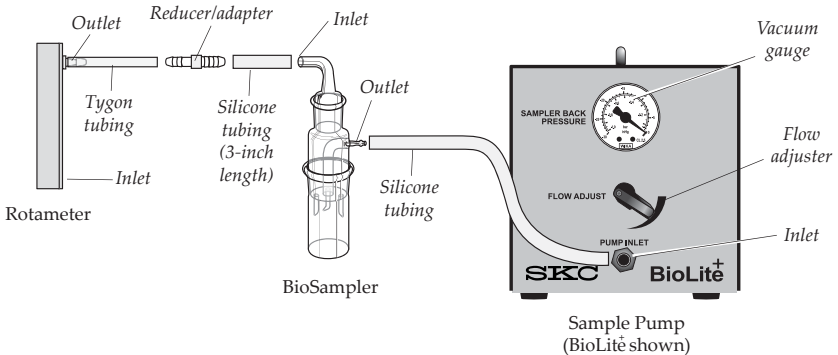

Figure 2. Calibration Train
2. Prepare the calibration train (*Figure 2*).
- a. Connect the flowmeter to the BioSampler inlet. **If using rotameter Cat. No. 320-4A20L, tubing, and reducer/adaptor provided in the Deluxe and Basic BioSampler Systems**, insert the 3/8 to 1/4-inch reducer/adaptor in the 1/4-inch ID Tygon tubing from the rotameter outlet and the 3-inch length of 3/8-inch ID silicone tubing; attach the other end of that silicone tubing to the BioSampler inlet as shown in Figure 2.